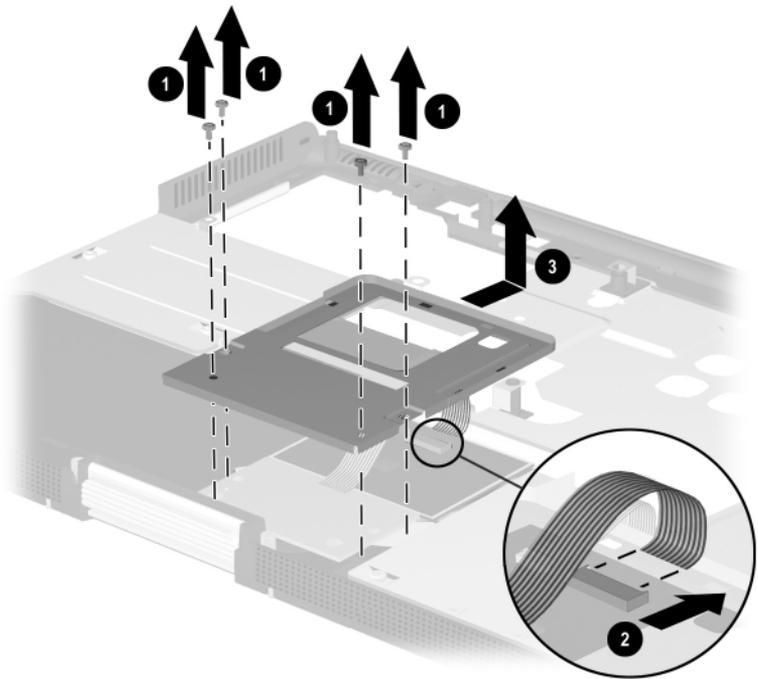

Figure 5-27. Removing the TouchPad
2. Remove the four PM2.0 × 4.0 screws ❶ that secure the TouchPad bracket to the top cover (Figure 5-27).
3. Disconnect the TouchPad cable ❷ from the low insertion force (LIF) connector on the TouchPad.
4. Slide the TouchPad bracket toward the back of the top cover ❸.
5. Lift the TouchPad bracket straight up ❹ and remove it.